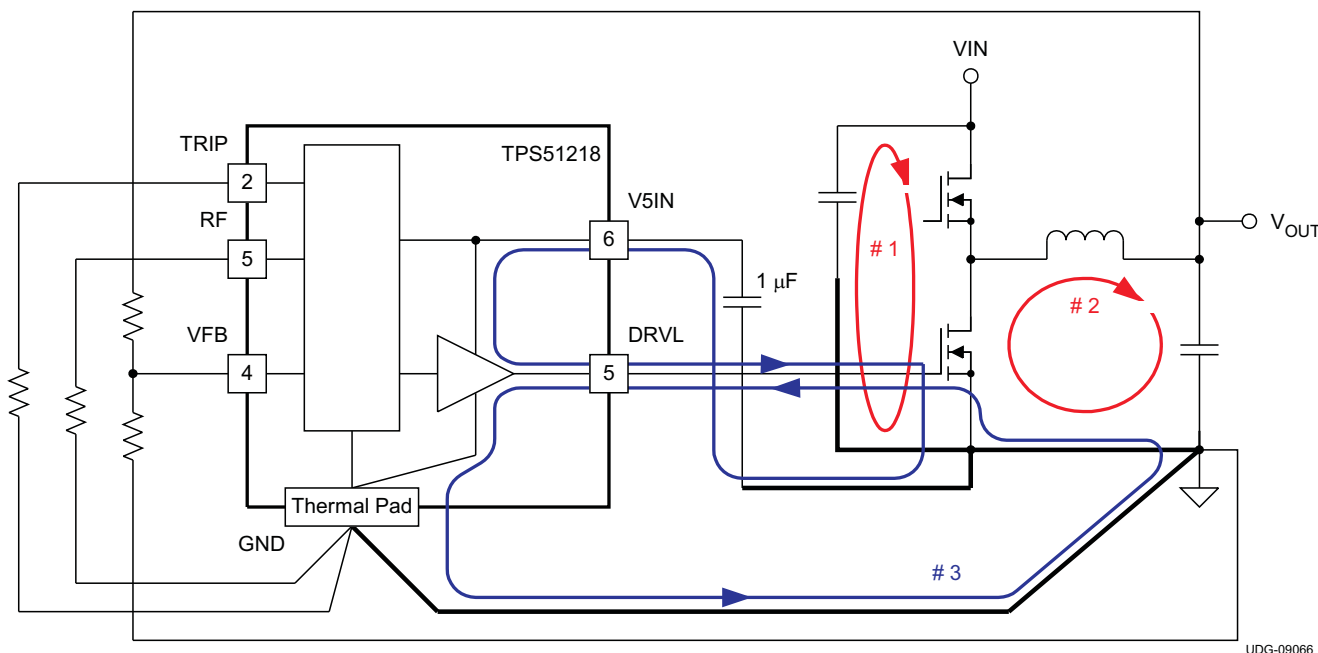

Figure 19. Ground System of DC/DC Converter Using the TPS51218
- The most important loop to minimize the area of is the path from the V_{IN} capacitor(s) through the high and low-side MOSFETs, and back to the capacitor(s) through ground. Connect the negative node of the V_{IN} capacitor(s) and the source of the low-side MOSFET at ground as close as possible. (Refer to loop #1 of Figure 19)
- The second important loop is the path from the low-side MOSFET through inductor and V_{OUT} capacitor(s), and back to source of the low-side MOSFET through ground. Connect source of the low-side MOSFET and negative node of V_{OUT} capacitor(s) at ground as close as possible. (Refer to loop #2 of Figure 19)
from gate of the low-side MOSFET through the gate driver and GND pad of the device, and back to source of the low-side MOSFET through ground. Connect negative node of V_{5IN} capacitor, source of the low-side MOSFET and GND pad of the device at ground as close as possible. (Refer to loop #3 of Figure 19)